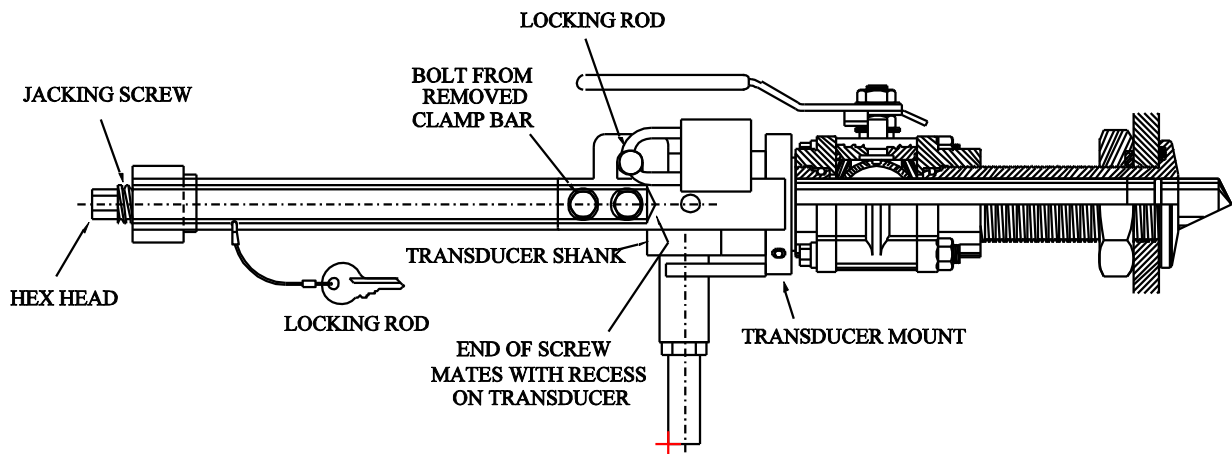

Figure 10-4 7600 Transducer Assembly with Extraction Tool Installed
7. Bolt the jacking tool to the transducer mount using the clamp bar mounting holes as shown in Figure 10-4 on page B-14. Tighten all four bolts.